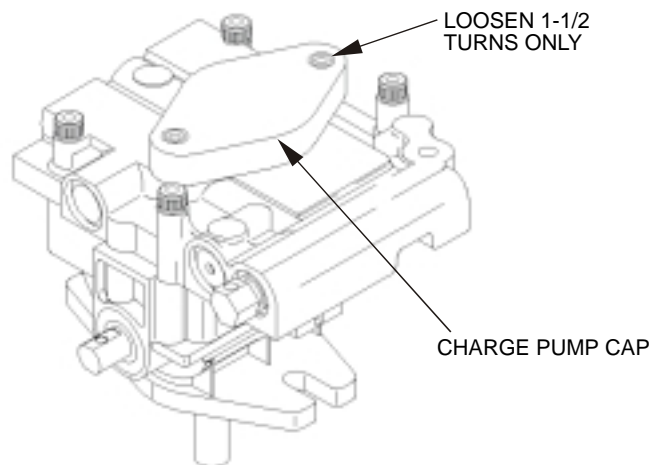

FIG. 6
- g) If either drive wheel does not rotate, one or both of the charge pumps (located on the top of the main pump as shown in Figure 6) may have lost their "prime". Refer to Section 5.1.10.
The critical area for purging air from the hydraulic system is between the oil reservoir and each charge pump located on the top of each variable displacement pump. (See Figure 6). Air in other parts of the hydraulic system will be purged through normal operation once the charge pump is "primed".
- e) To “prime” charge pump, loosen two hex socket head capscrews (shown in Figure 6) **1-1/2 turns only. Make sure engine is not running.** Lift the charge pump housing upward and wait for a steady flow of oil to flow out from under the housing. Retighten the capscrews. Do this for both pumps.